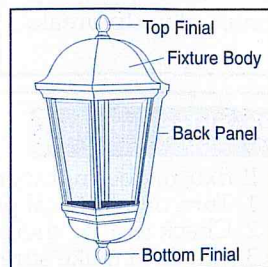

Figure 10
- For Pocket lanterns, unscrew top and bottom finials from fixture body. Lift body from back panel and insert bulb. Reattach body by securing top and bottom finials to fixture (see figure 10).